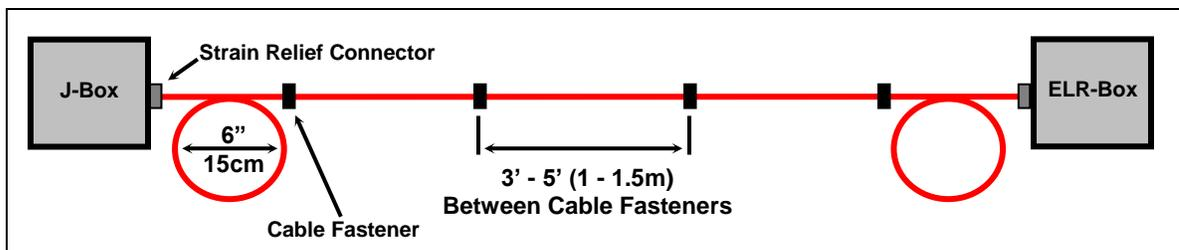

Figure 57
- **ALWAYS** loop SafeCable once before entering a J-Box / ELR-Box, (Figure 57). This will help prevent excessive tension from expansion and contraction, or accidental dislodging from the terminal strip.